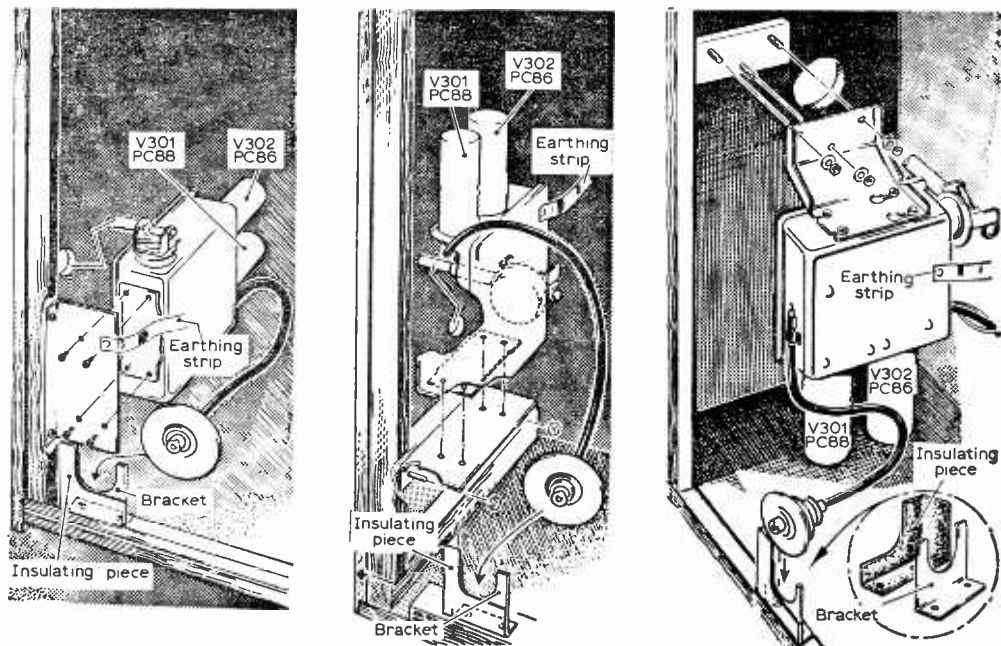

Fig. 1—These diagrams show three ways in which the u.h.f. tuner may be fitted into the current Ferguson receivers, depending upon the actual model.
U.H.F. tuners are available for around seven to eight guineas and they take up to 20 minutes to fit. In some of the Ferguson models requiring just a tuner, for example, the cabinet is already drilled and it becomes just a matter of cutting a couple of links, plugging in the tuner connector to the i.f. assembly and securing the aerial bracket to the cabinet, as shown in Fig. 1.